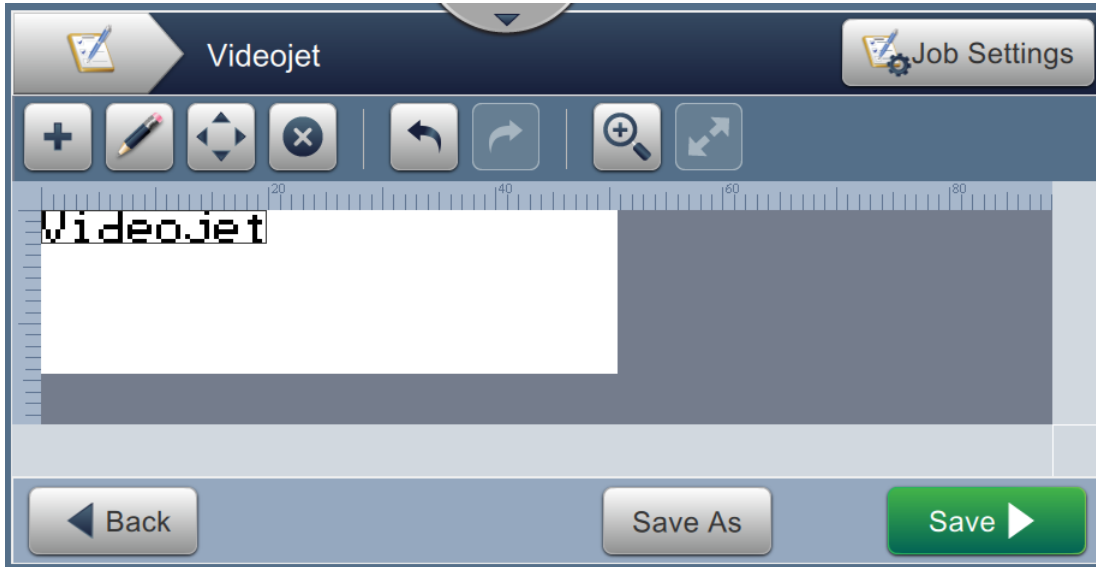

Figure 5-14: Field Edit Screen
3. Touch the required field to be edited and touch the  button as shown in Figure 5-14.